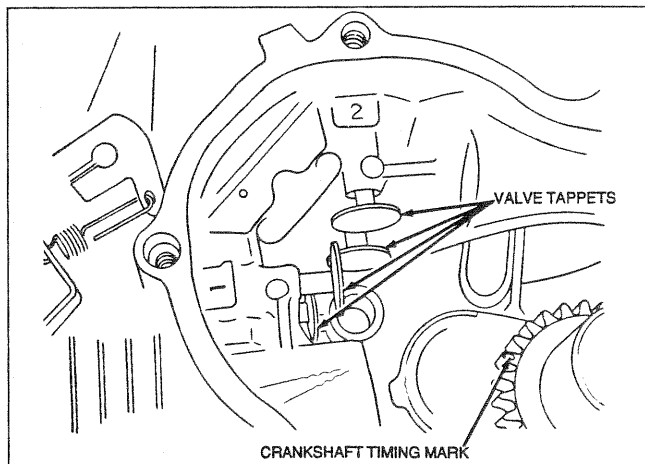

Figure 19. Positioning the Timing Mark
Use the following procedure to install the crankshaft (see Figure 19):
- Rotate the crankshaft until timing mark (Figure 19) is toward the cam gear side of the engine.